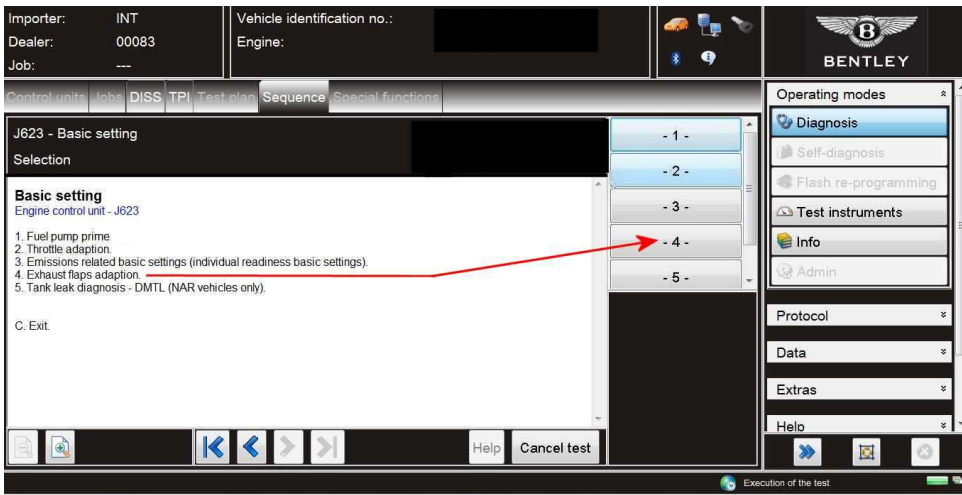

Figure 8
11. The basic setting screen will now be evident (Figure 8)